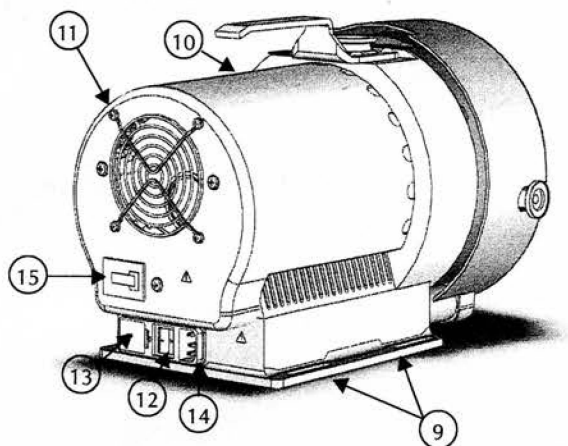

Figure 3 Outline Drawing and Principal Items
The pump incorporates an automatic gas ballast to prevent water and other condensates from accumulating within the pump. The standard configuration has a solid plug installed in the 1/8" National Pipe Thread gas ballast port (item 6 on Figure 3 on page 17). This configuration can be used for relatively dry applications. A sintered filter plug is also supplied with the pump. The filter plug can be installed in the gas ballast port and will allow enough atmospheric air to enter the pump to purge condensates while not affecting pump ultimate pressure or pumping speed.